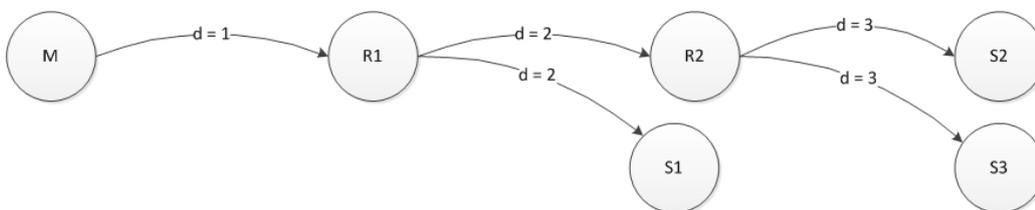

Figure 30: Example network with repeaters
In Figure 30: Example network with repeaters there are six modems. Modems S2 and S3 are farthest from the master (M), therefore they appear first in the list. See the table below for an example of a modem list for this network.